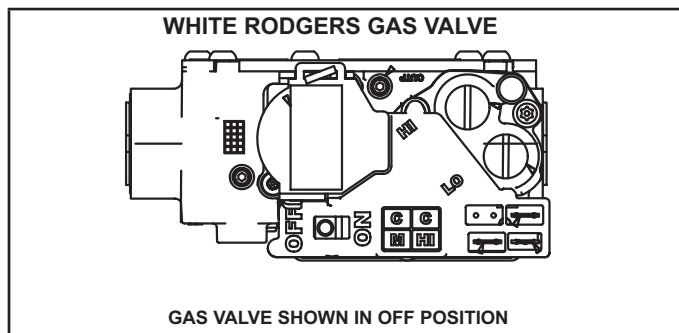

Figure 2
Operating the Gas Valve (Figures 2 and 3)
- 6 - Move switch on gas valve to OFF. Do not force. See figure 2 or 3.
- 8 - Move switch on gas valve to ON. Do not force. See figure 2 or 3.
- 4 - Move switch on gas valve to OFF. Do not force. See figure 2 or 3.